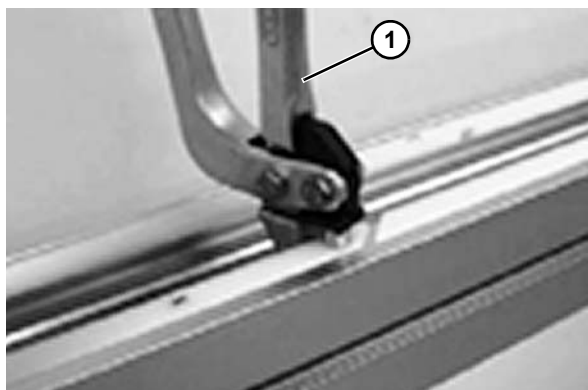

Figure 46
2. Clamp the aluminum rivet by using crimping pliers (**Figure 46, item 1**).